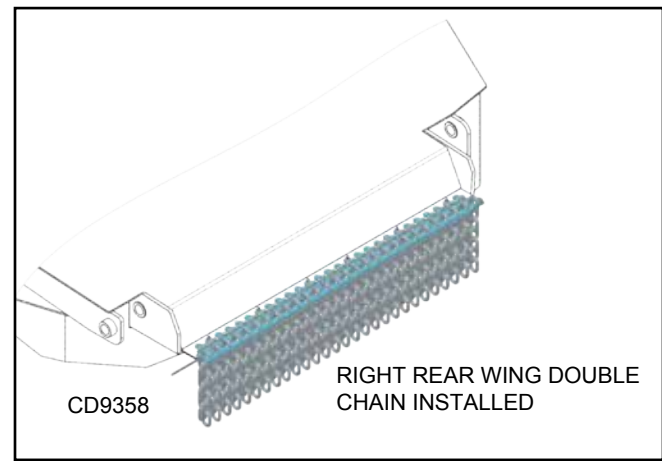

Figure 28. Double Chain
3. Compare removed bracket with new double lock brackets to identify correct new part. Refer to Figure 28 for example.